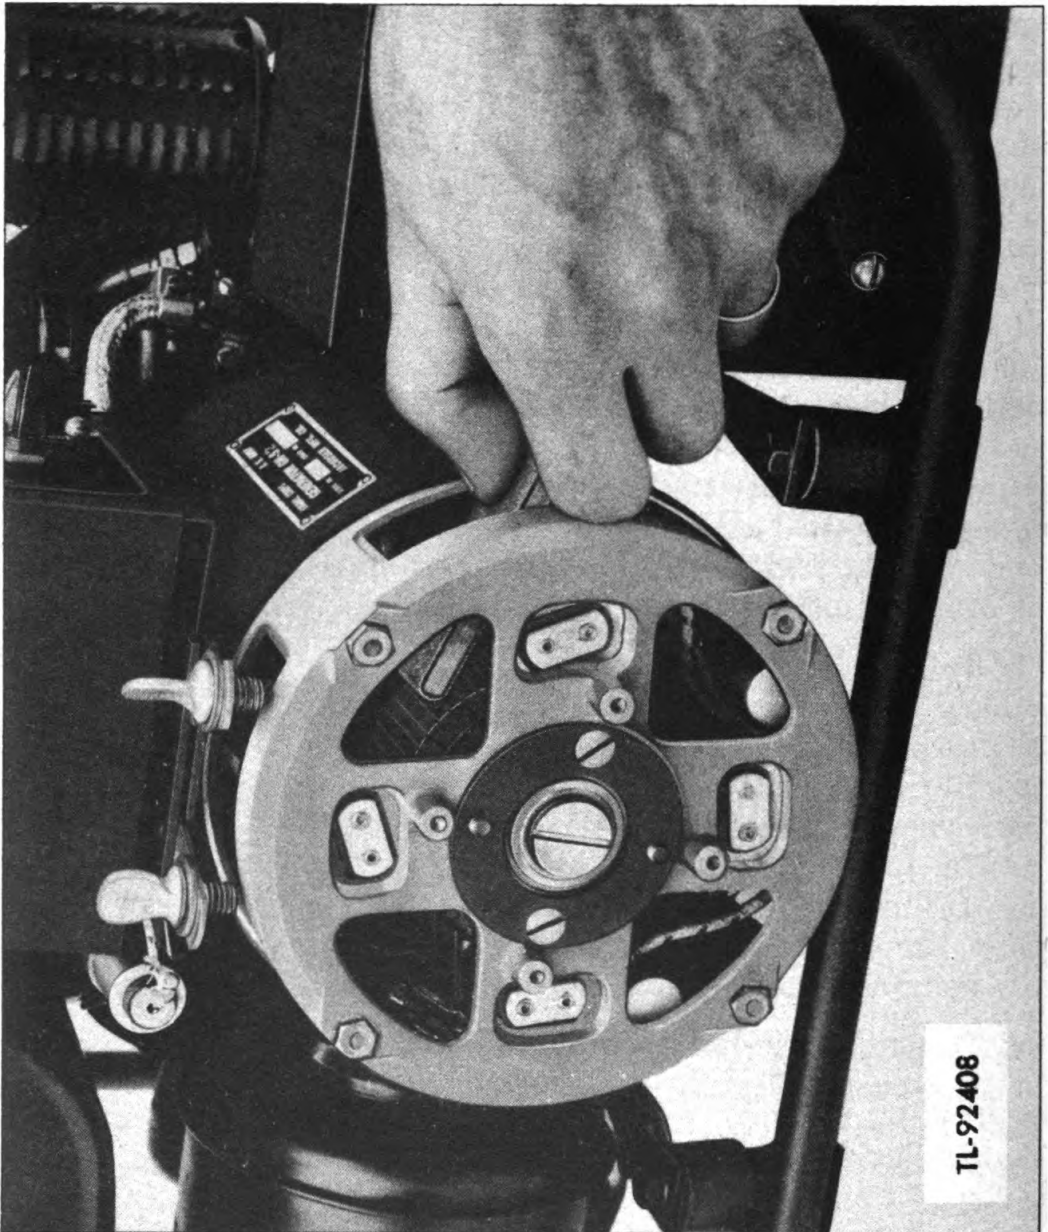

Figure 18. Dressing commutator
a. To Clean Commutator. Access to the commutator is possible by removing the four screws which hold the end cover in place, then removing the cover. To clean the commutator (fig. 18), use a piece of wood or other flat nonmetallic object, about the same width ($\frac{1}{2}$ inch) as the #00 sandpaper furnished with the equipment. With the armature rotating, place the strip of sandpaper on the object in use and hold it on the commutator exactly as shown in figure 18. Stop the unit and, with a small brush or pointed stick, remove dust or carbon from between the bars of the commutator.